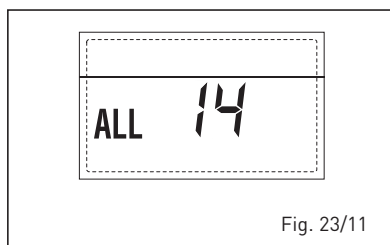

Fig. 23/11
– **“ALL 15” FAN ERROR (fig. 23/12)**